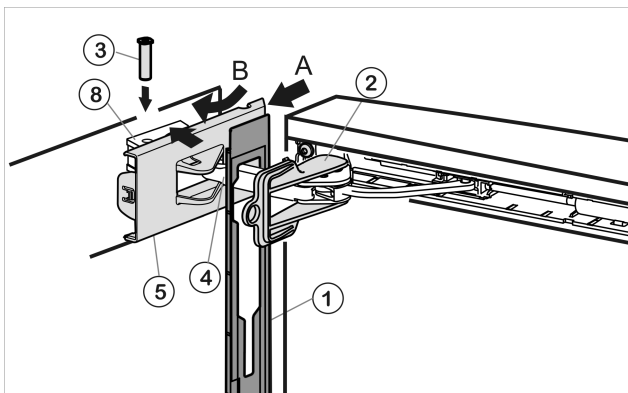

Fig. 59
- Hook panel Fig. 59 (1) into the damper bracket Fig. 59 (4) such that the detent hooks are pointing inwards and the front side is facing the appliance.
- Push on cover Fig. 59 (5) from the outside (A) and pivot over the bearing part Fig. 59 (8) (B).
- Place cover Fig. 59 (5) on top and allow to snap into place until the first notch.
- Pull damper bracket Fig. 59 (4) towards bearing part and insert bolt Fig. 59 (3) from above such that the square head is resting in the recess.
- Now snap cover Fig. 59 (5) completely into place on the bearing part Fig. 59 (8).
- Remove locking device Fig. 59 (2) by twisting it.
- Snap panel Fig. 59 (1) into place on the door.